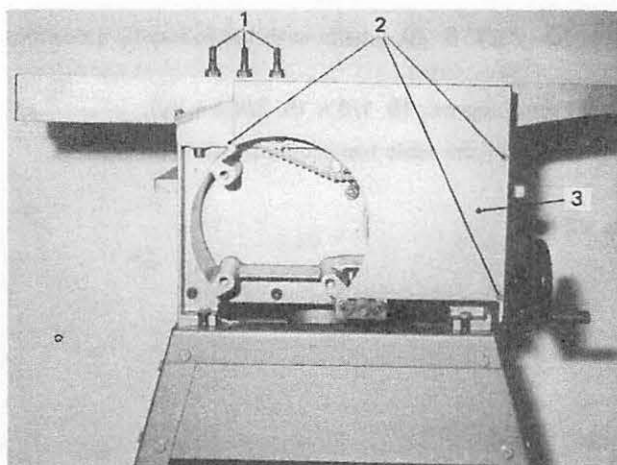

Fig. 1
1. Unpack the machine and fasten with 4 hexagon bolts on to the assembled machine stand (Fig.1).
- c) Place the supplied motor fastening screws on the feed table (Fig.1, No.1).
3. Remove the gearing cover (Fig.1, No.2 and 3) after the 3 flat head screws have been unscrewed.